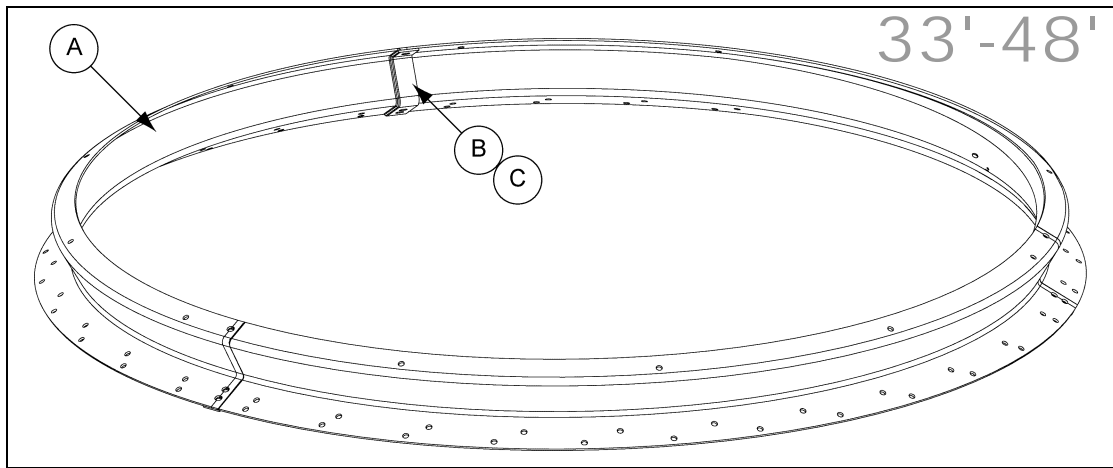

Figure 9C Intermediate Center Collar
For 33'-48' diameter farm bins, an intermediate center collar (A) (also known as lower center collar) assembled from three (3) pieces will be used to align the flashing and the roof panels onto the center collar. (See Figure 9C.)